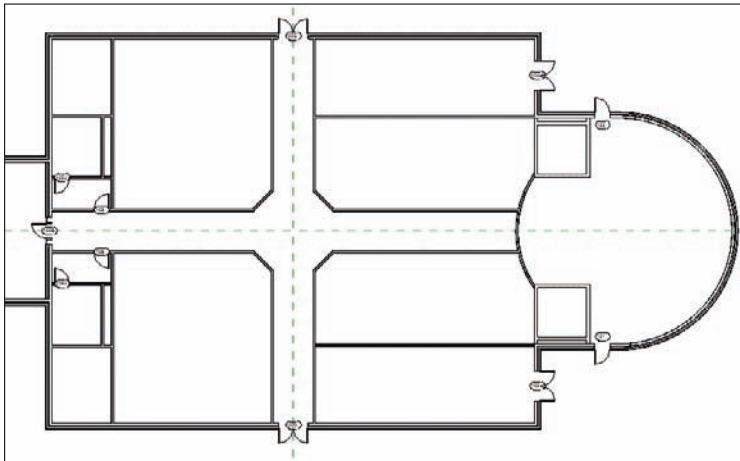

FIGURE 2.76 Two new corridor doors
3. Add the double doors to the ends of the vertical corridor, as shown in Figure 2.76.